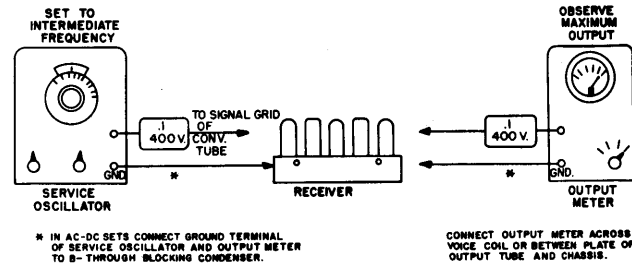

FIG. 2
A. With service oscillator and output meter: Connect equipment in accordance with Fig. 2, set oscillator for proper intermediate frequency, turn up output of oscillator until there is a clearly audible but not loud note from the speaker; adjust the screws of each I. F. transformer, one at a time, until the maximum deflection on the output meter is obtained on each. As the sound output increases, reduce the signal fed from the oscillator.